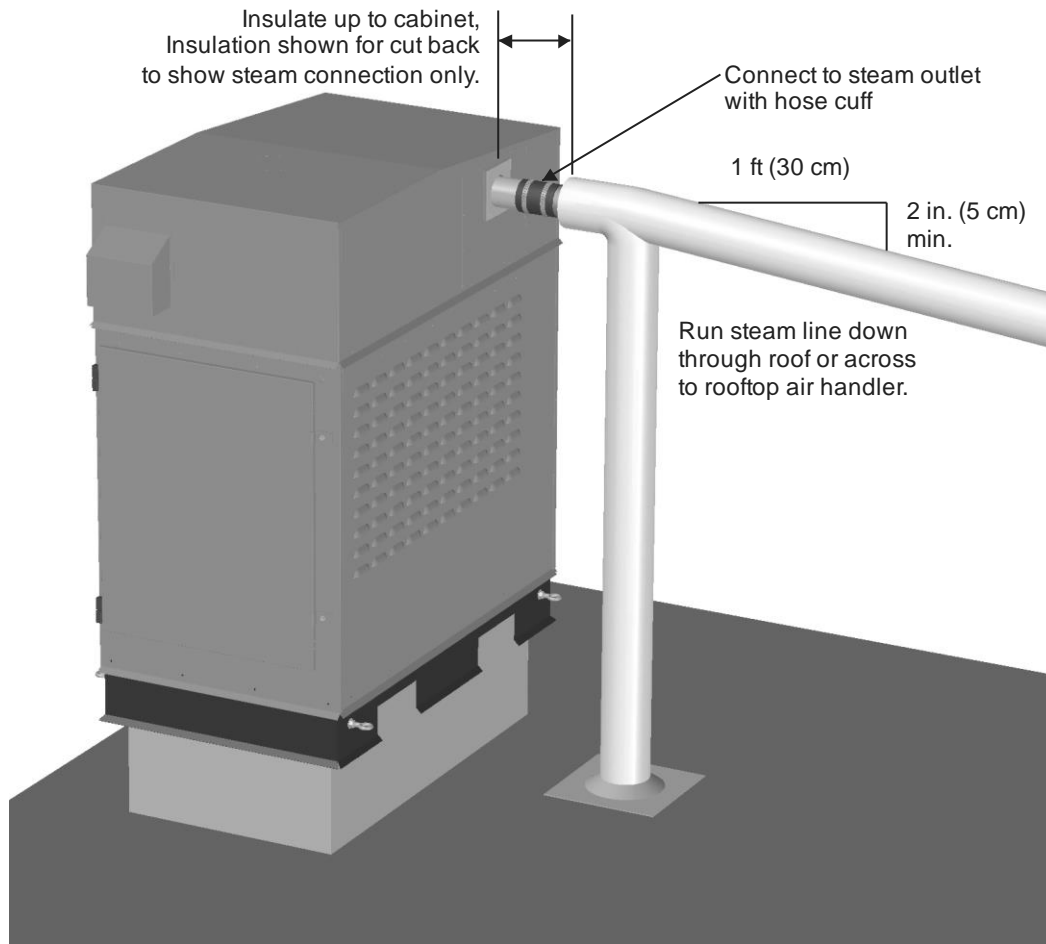

Figure 27: Nortec SETC Outdoor Steam Outlet
- The Steam outlet(s) of the Nortec SETC Outdoor is from the back of the humidifier and unlike the indoor model does not require 12 in. (30 cm) of vertical steam run immediately after the humidifier. The steam line may be routed directly down or horizontally from the outlet. See Figure 27: Nortec SETC Outdoor Steam Outlet.